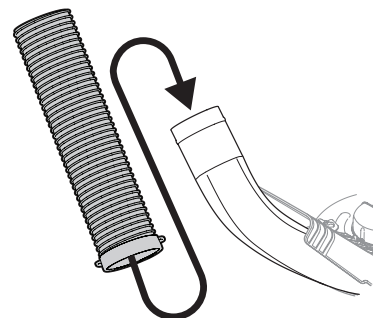

Figure 25
3. Lift by the handles at the bottom of the hose. Slide the hose over the boot mounted on the cutting deck, as shown in Figure 25.